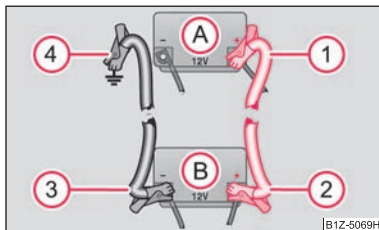

Fig. 140 Jump-starting using the battery from another vehicle: A - flat vehicle battery, B - battery providing current
- Attach one end ① to the positive terminal ⇒ fig. 140 of the discharged battery (A).
- Attach the other end ② to the positive terminal of the battery supplying the power (B).